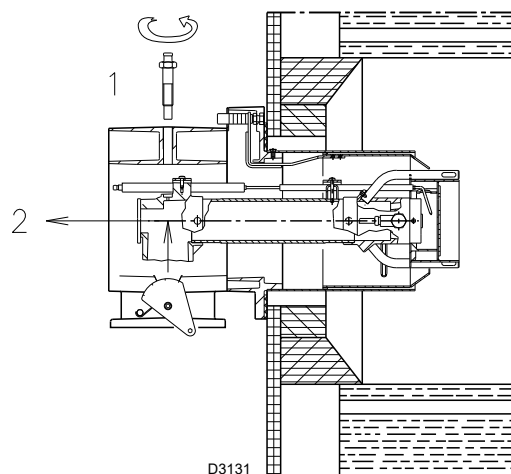

Fig. 18
- Remove the screw 1)(Fig. 18) and the internal part 2);
To facilitate the adjustment, loosen the screw 1 (Fig. 18 on page 23), adjust, then block.